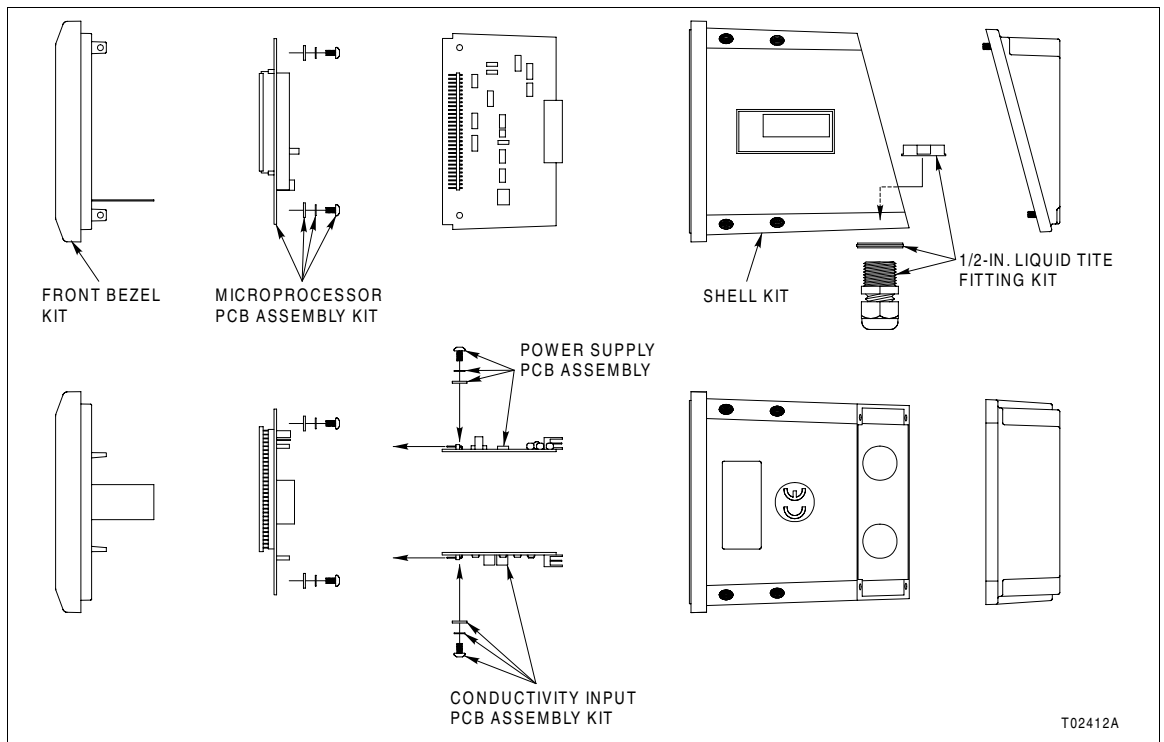

Figure PR51-1. Microprocessor PCB Replacement
2. Use the Phillips screwdriver to remove the two screws that secure the microprocessor PCB to the front bezel (Fig. PR51-1).